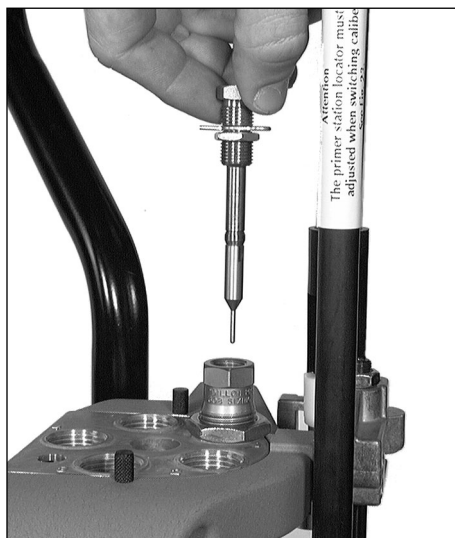

FIG 83
1. Unscrew the decapping assembly from the top of the die FIG 83.